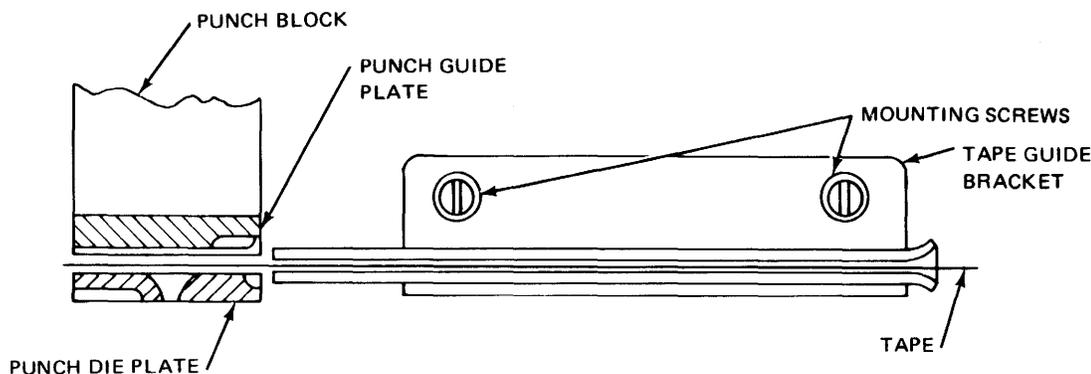

Figure 6-27. Tape Guide Adjustment.
b. Loosen tape guide mounting screws until they are friction tight (see figure 6-27).
d. Position tape guide bracket to ensure tape passes freely from the bracket through the punch die plate (see figure 6-27).